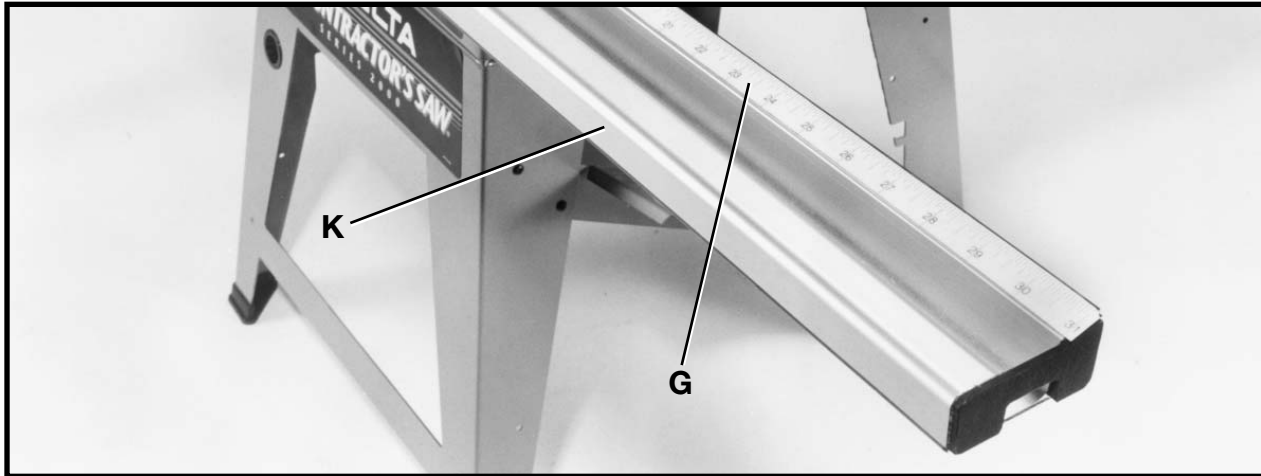

Fig. 17
4. Continue to assemble the scale (G) Fig. 17, along the entire length of guide rail (K). **IMPORTANT:** Make certain the scale is positioned **straight** on the guide rail.